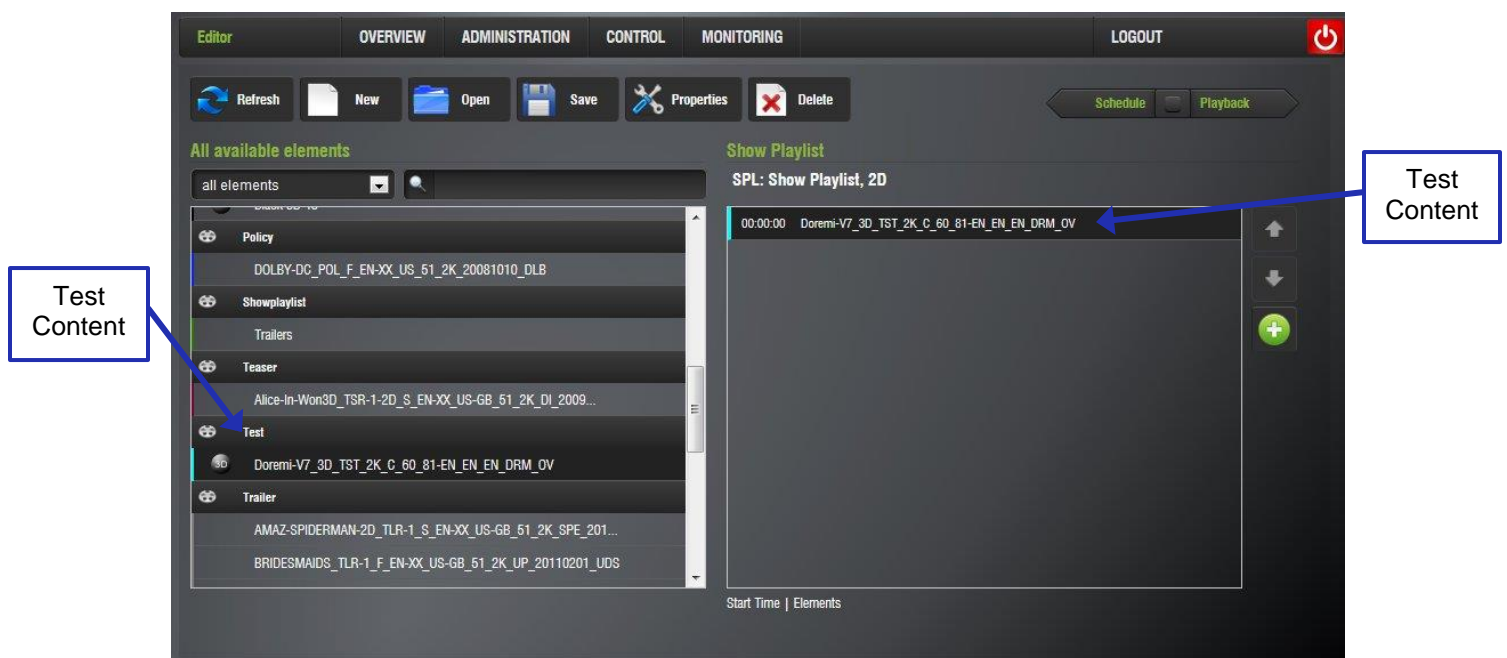

Figure 339: Pre-Loaded Content
- The content will already be available in Cinelister, under the section called Test (Figure 339).
- To test playback, click on the content so that it appears in the right side of the GUI (Figure 339).